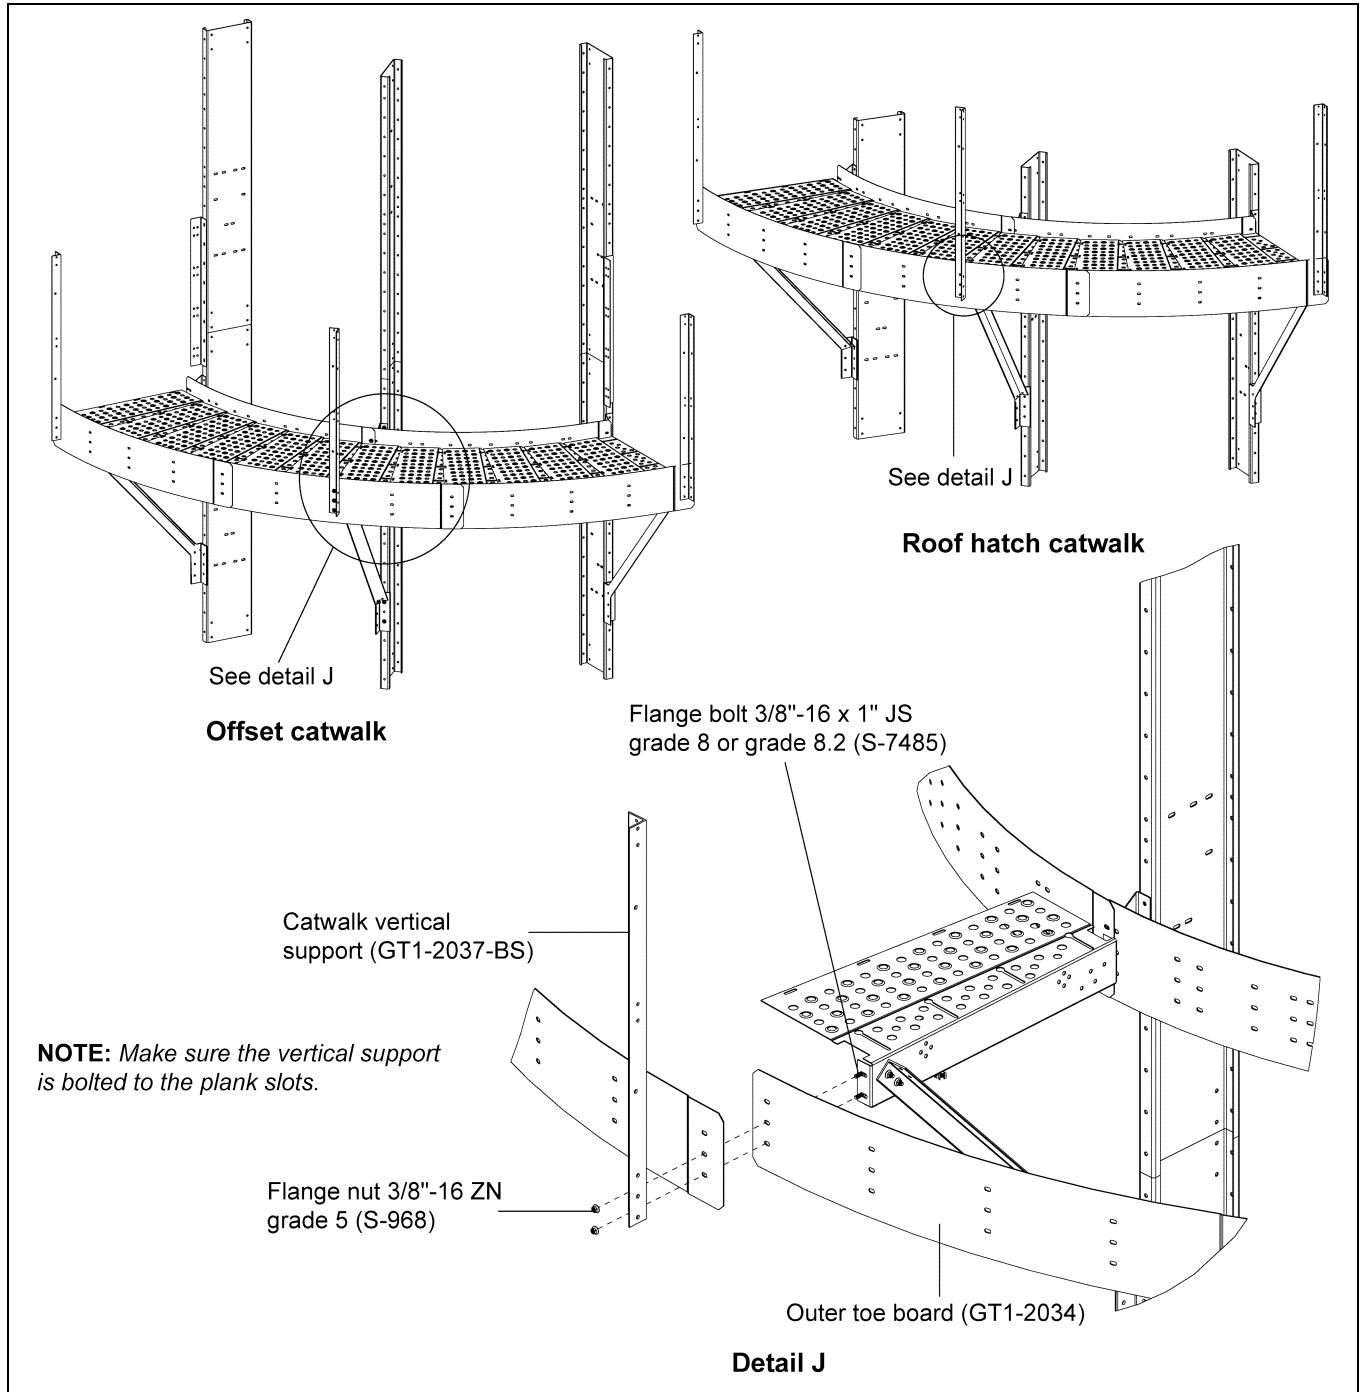

Figure 6T Outer Toe Board (GT1-2034) and Vertical Support (GT1-2037-BS)
1. Install all the outer toe boards (GT1-2034) to the planks (GT3-1669). (See Figure 6T.)
2. When installing the outer toe board with planks, install the catwalk vertical support (GT1-2037-BS) simultaneously at proper locations using 3/8"-16 x 1" JS grade 8 or grade 8.2 bolts (S-7485) and 3/8"-16 ZN grade 5 nuts (S-968). (See Figure 6T.)